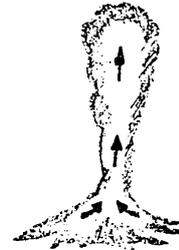

FIGURE 2
14. Fig 2 shows the classic beginning of the thermal with its inverted cone appearance as the warm air rises away from the ground. The spot at which this occurs is usually warmer than the surrounding area and we refer to it as a trigger source. Trigger sources are very important to us as when we are low it is through recognising likely trigger sources that we stand a greater chance of finding a thermal.